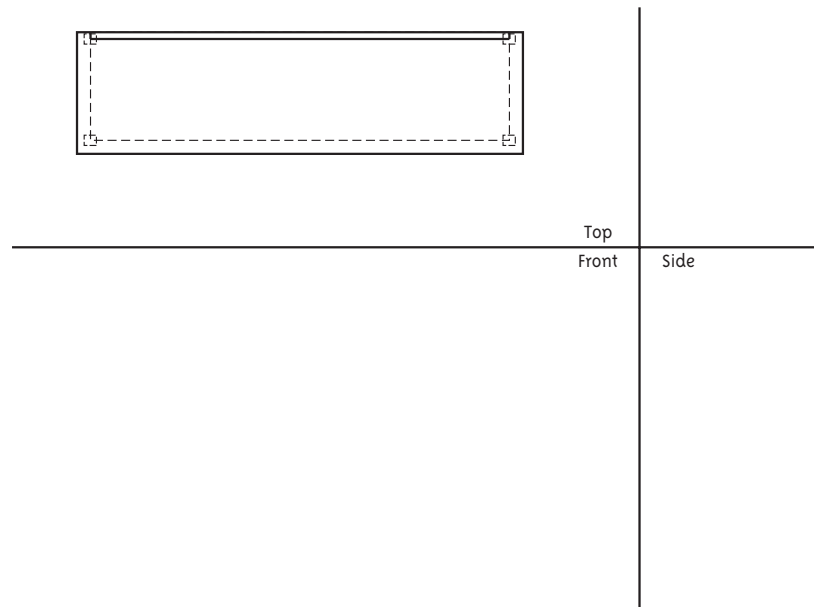

Figure 4-11
**Top** Measure and mark the chest's length and width, the top overhang, and the plate rail. Draw the outline first, then add detail. Note the hidden (dashed) lines. Hidden lines represent features that can't be seen in a view but must still be acknowledged. In this case they represent the chest's perimeter, which can't be seen because of the lid overhang, and the legs (Figure 4-11). Hidden lines for the drawers are left out for clarity.